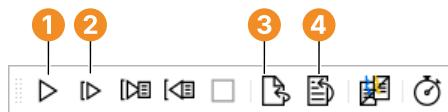

Figure 2.5: The basic execution buttons.
- Click Execute ▶ Run or click the corresponding button ① from the tool bar (see figure 2.5).
- Click Reset Program Execution (4) to reset the program to its initial state. (see figure 2.5).
- Using the button Step Over (2) you can execute the program line by line and inspect the immediate effect of each instruction.